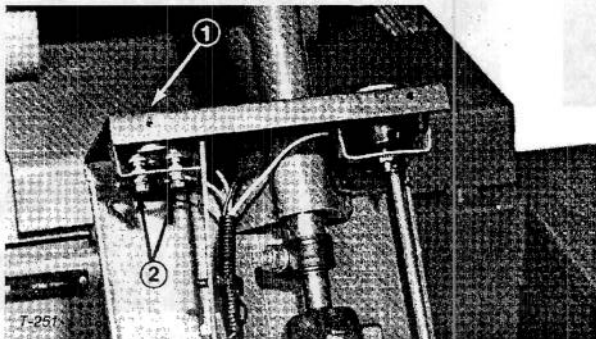

Figure 81
6. Remove connectors from ammeter terminals (Fig. 81). Check continuity across ammeter terminals. If the ammeter has continuity, proceed to step 7. Replace the ammeter if it does not have continuity.
2. Check continuity between ammeter terminals (Fig. 81). If ammeter does not have continuity, replace the ammeter. Replace the wiring harness if the ammeter has continuity.